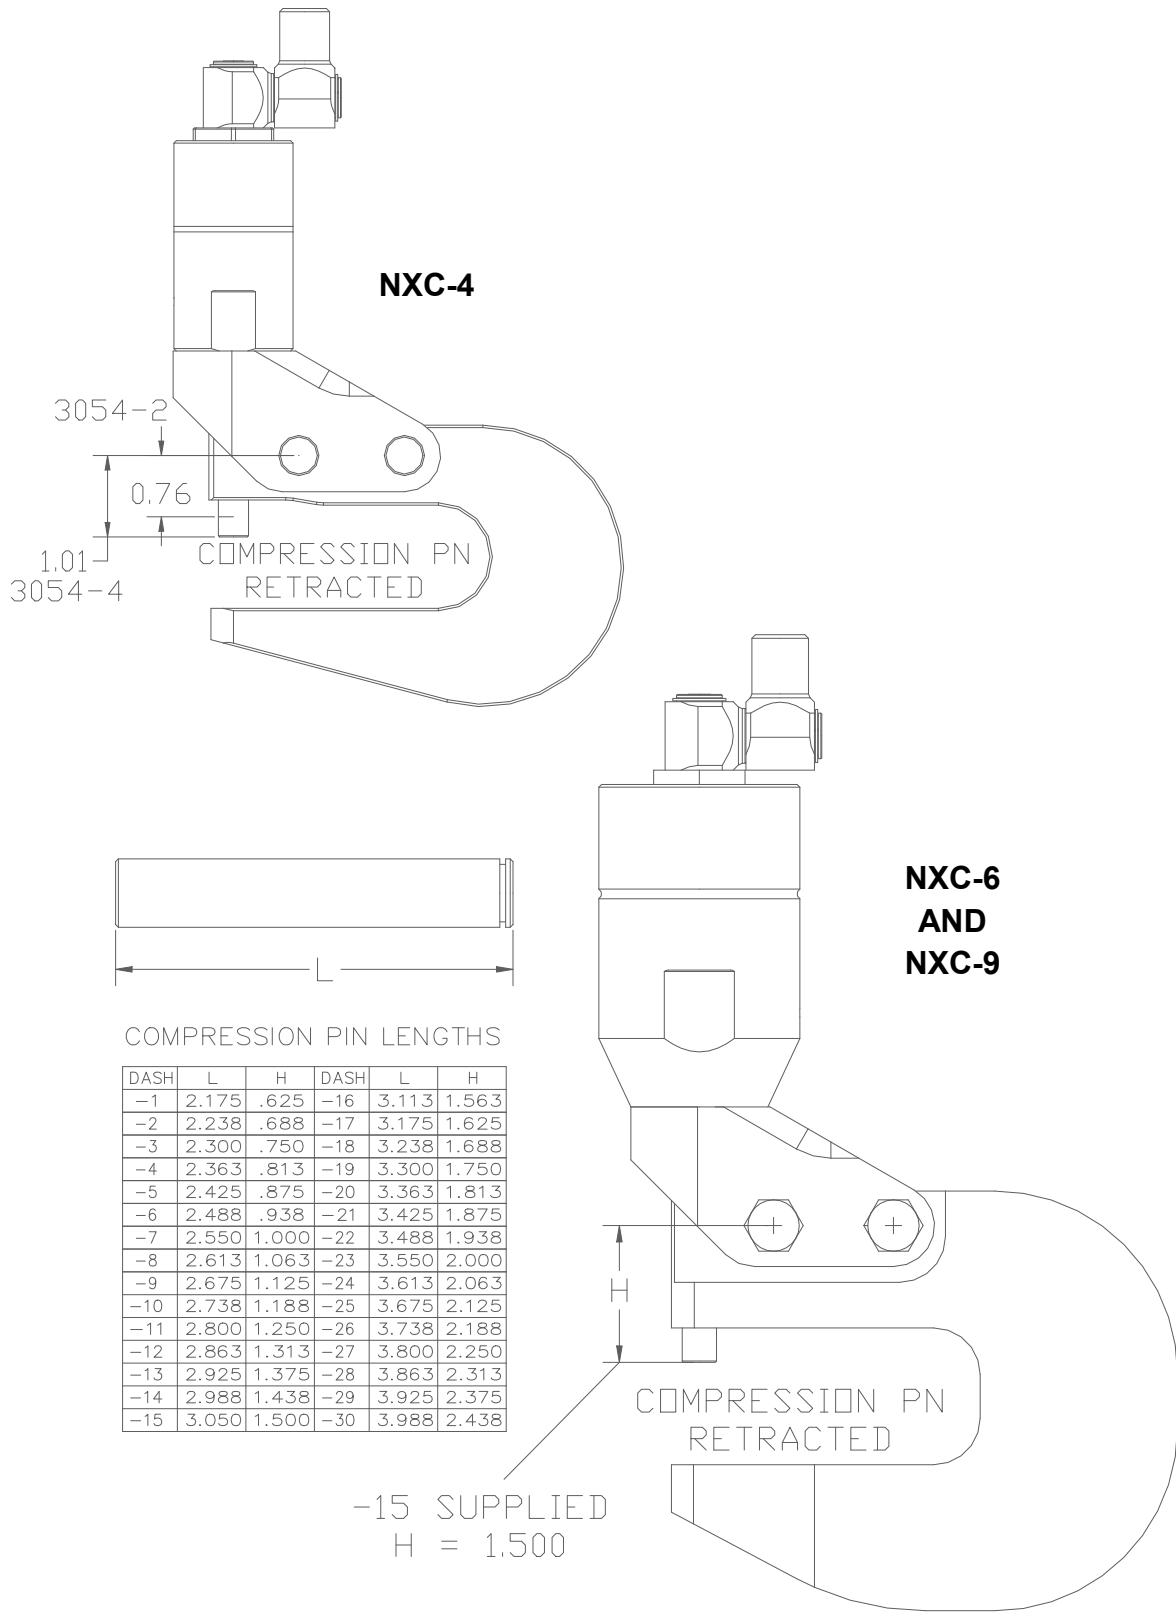

FIGURE 10 – COMPRESSION PIN LENGTHS
- 4.9 Refer to Figure 10 for variations of compression pins that can be used with the C-yokes. The default compression pin used with Numatx NXY HD yokes is a -15. Some pre-planning on compression pin length may be necessary, factoring in compression pin travel (.550"), C-yoke deflection, and necessary retraction distance for part removal clearance.